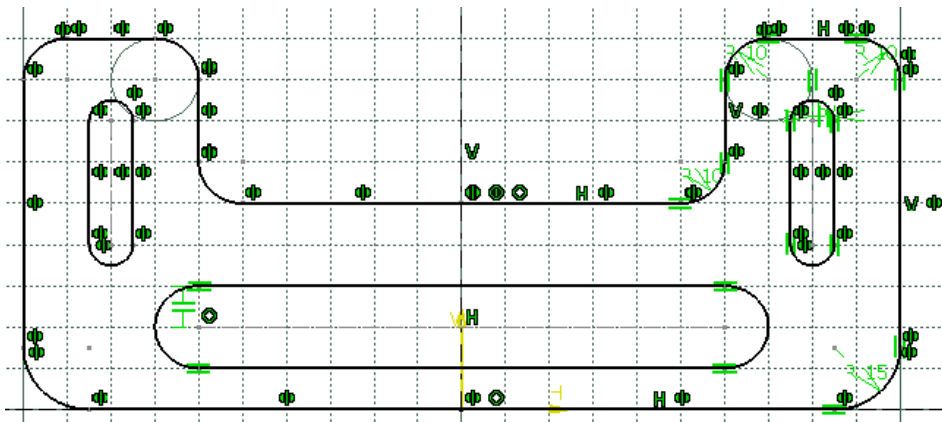

Figure 3-73 The sketch after creating the horizontal elongated hole
4. Draw the horizontal elongated hole such that the coordinate values of the start and end points are 60,20 and -60,20, respectively. Specify the value of radius as **10** in the **Radius** edit box of the **Sketch tools** toolbar. The final sketch is shown in Figure 3-73. Press the ESC key to exit the selection set.